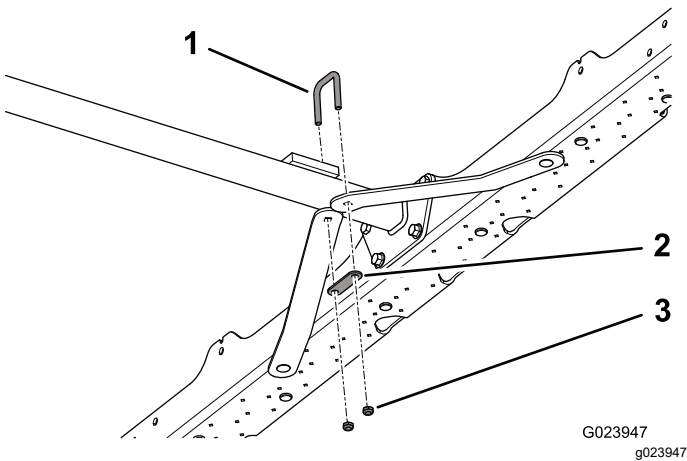

Figure 6
4. Install a U-bolt over the top of the drawbar, and align the holes in the shorter flat ends of the support braces to the U-bolt (Figure 6).
5. Place the strap over the threaded ends of the U-bolt, and secure the U-bolt with 2 flange locknuts (5/16 inch); refer to Figure 6.